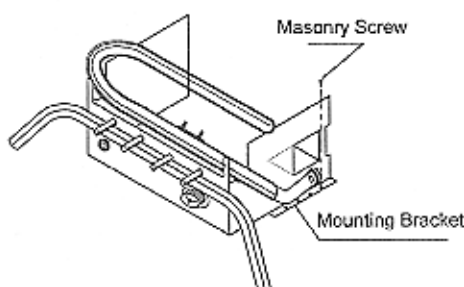

Figure 12- Attaching Heater Base to Fireplace Floor
7. Mark screw locations through holes in mounting brackets (see Figure 12). If installing in a brick-bottom fireplace, mark screw locations in mortar joint of bricks.
10. Attach base assembly to fireplace floor using two masonry screws (in hardware package) (see Figure 12).